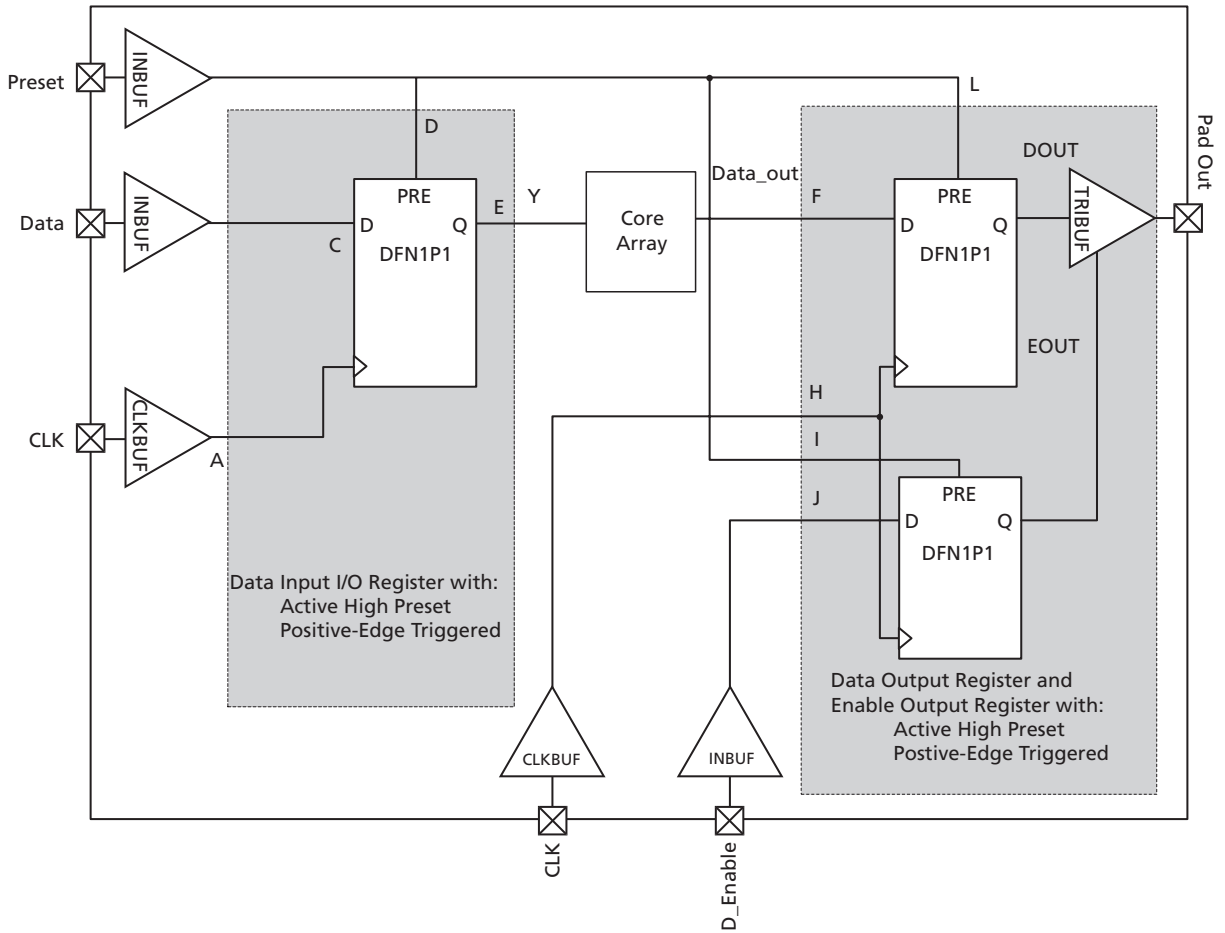

Figure 2-12 • Timing Model of Registered I/O Buffers with Asynchronous Preset
* See Figure 2-12 on page 2-37 for more information.